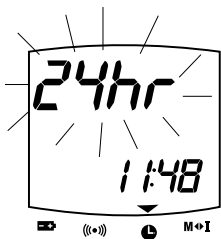

Figure 10
3. The 12hr or 24hr begins to flash (figure 10). Press the left or right button to toggle between the 12 or 24 hour clock setting. If set to 24hr, time will be displayed in a 24 hour format, e.g., 13:00 = 1:00pm.